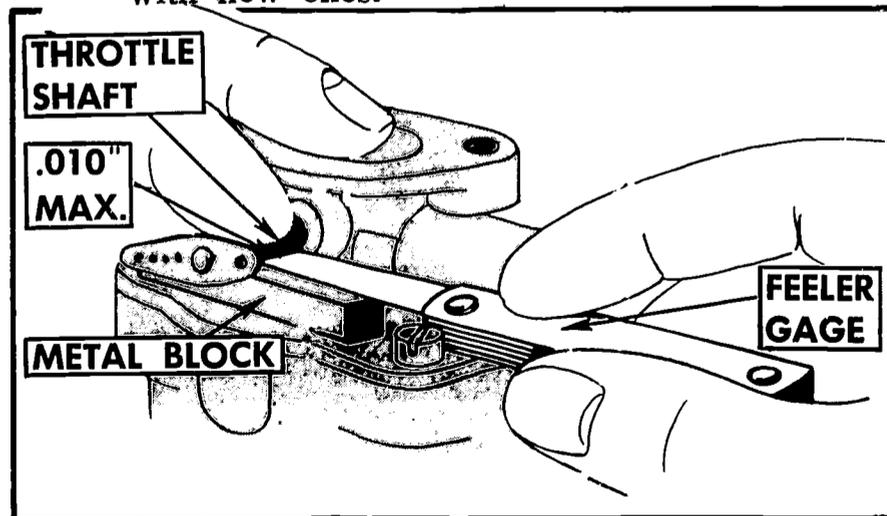

FIGURE 141. Checking the throttle shaft and/or bushing for wear.
1. *Check throttle shaft for wear (Figure 141).*
2. *Check throttle-valve shaft for wear (Figure 141).*